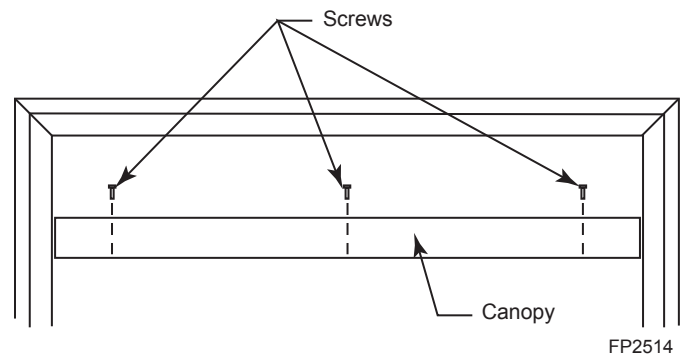

**Figure 18 -
2. Align the black canopy with the holes in the top frame assembly. *Figure 18*
3. Install the three (3) screws (in owner's manual packaging) which attach the canopy to the top frame assembly. *Figure 18*